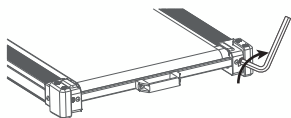

Figure 2
- If the walk belt has shifted to right, use the hex tool to turn the right idler roller screw clockwise 1/4 of turn(refer to figure 2).